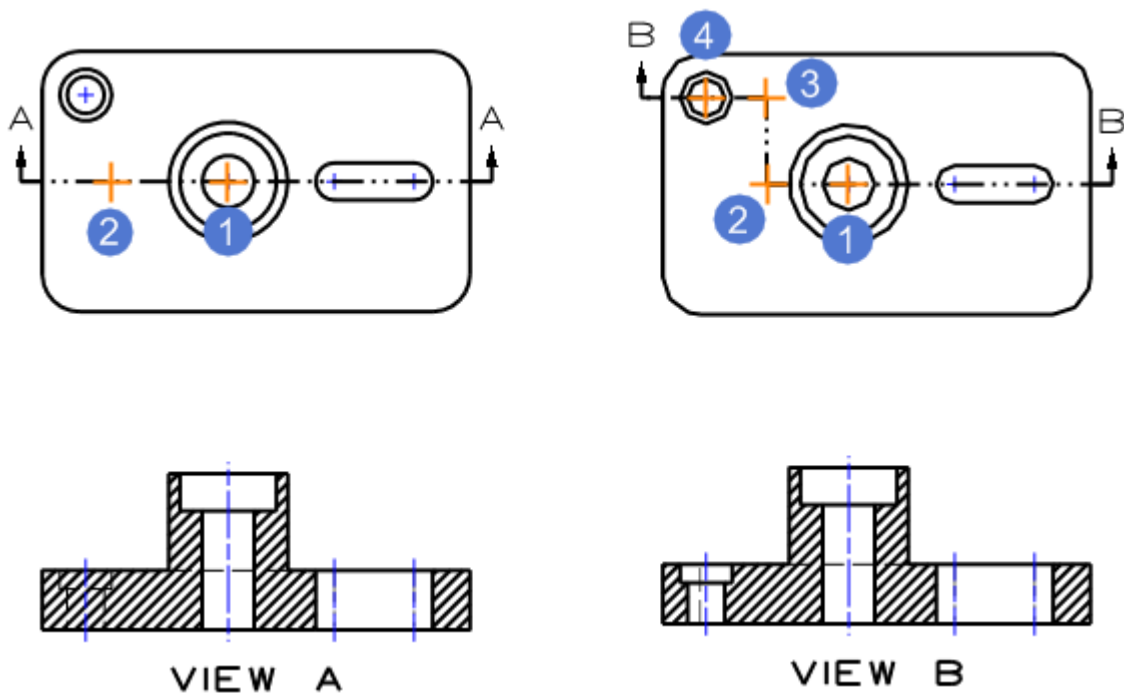

Figure33 Full Section View and Stepped Section View
**Note:** If two points are picked and full section line through the model, the full section view is created. If more points are picked, the stepped section view could be created, as shown in the right image of Figure 33.